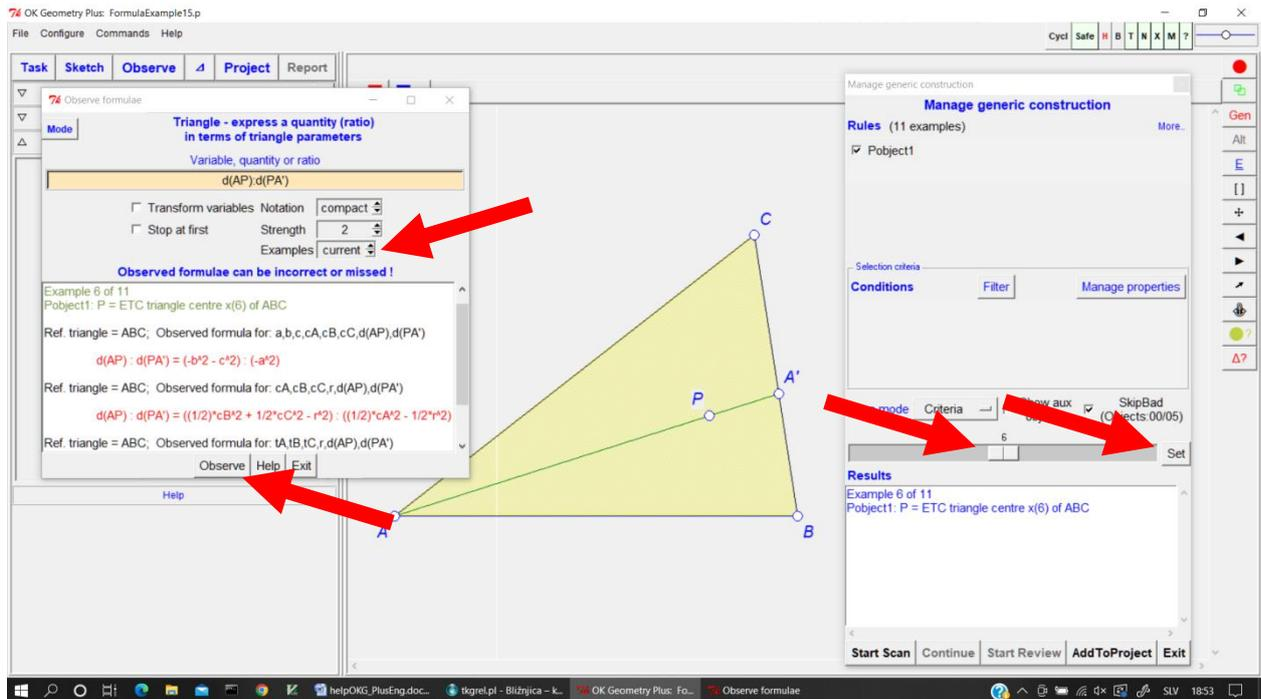

Figure 71
The form for **Observe formulae** will appear (Figure 71).
1. Set the slide bar in the examples manager to the desired value (Figure 71). For example, if you want to consider the example 6 (i.e. P is the symmedian point of ABC), set the slide bar to 6.